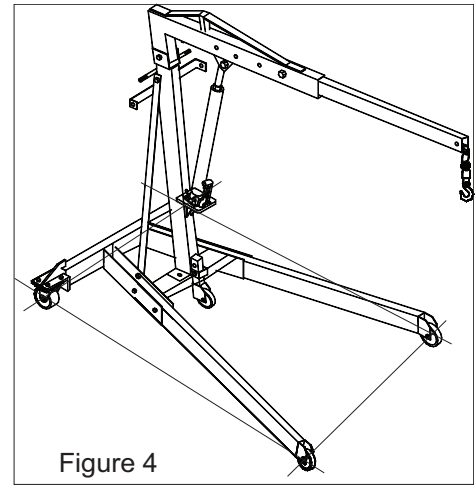

Figure 4
**ALWAYS** verify that the crane and the application are compatible. **NEVER** load the engine crane with an engine that extends beyond an imaginary line drawn connecting the centerlines of the front and rear wheel caster axles as shown in Fig. 4.